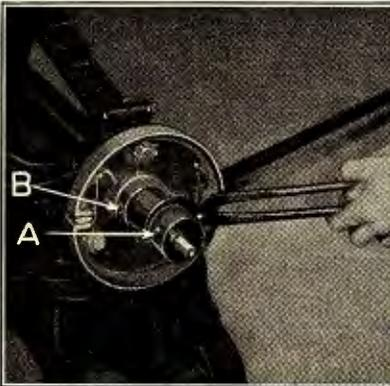

Fig. 356
- 636** The roller bearing sleeves are made in rights and lefts. When installing, make sure that the oil hole in sleeve (See "A" Fig. 355) is above slot "B" with the locking point "C" facing outer end of sleeve. To install the sleeve insert it into housing, making sure that the locking point (See "A" Fig. 356) on sleeve enters hole "B" in axle housing. This prevents any possibility of the sleeve turning or slipping in the housing.